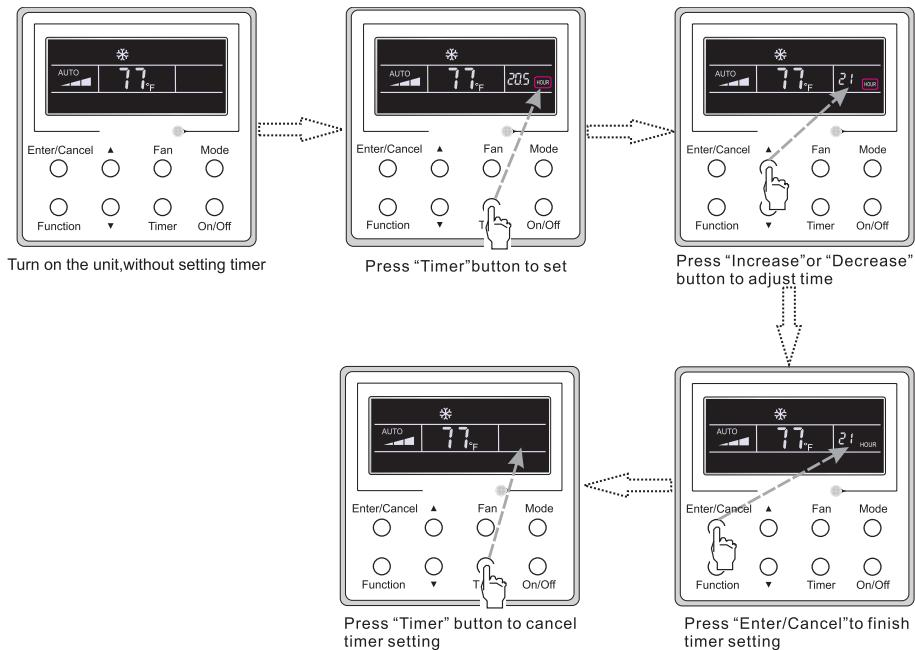

Fig. 11 – Timer off Setting under the unit's ON state
- **TIMER OFF** mode: Press **TIMER**, if LCD does not display **xx.x hour**, it means the timer setting was cancelled (Fig. 11 displays the **TIMER OFF** setting, under the **ON** state).